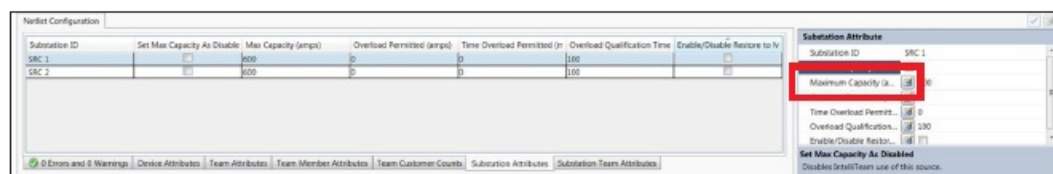

Figure 8. The Maximum Capacity entry in the IntelliTeam Designer software.
- When enabled, the maximum capacity of the feeder source is used in all IntelliTeam SG system available source capacity calculations. Configure the Maximum Capacity setting in the IntelliTeam Designer application on the Netlist Configuration>Substation Attributes screen. See Figure 8.